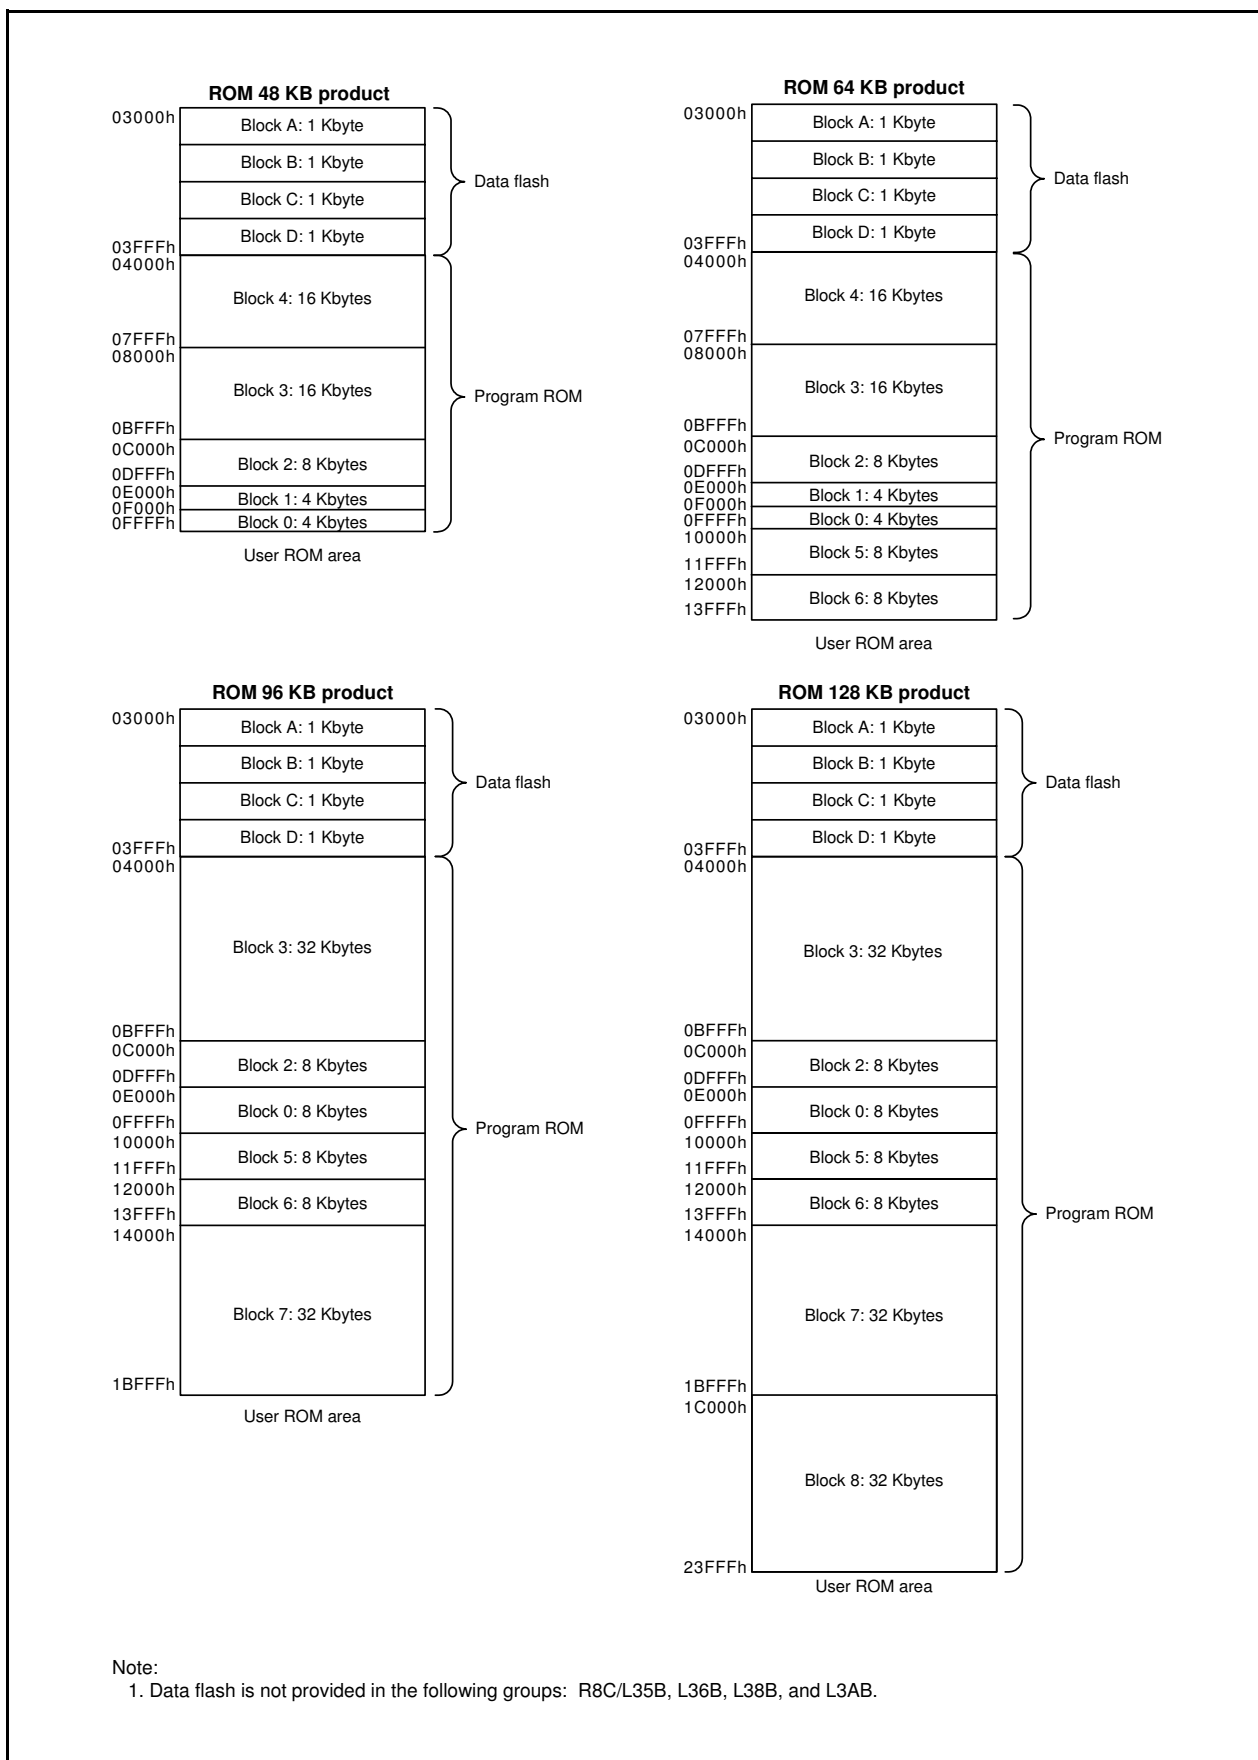

Figure 33.1 Flash Memory Block Diagrams of R8C/L35A, L36A, L38A, L3AA, R8C/L35B, L36B, L38B, and L3AB Groups
- The number of blocks and block division vary with the MCU. Refer to **Figure 33.1 Flash Memory Block Diagrams of R8C/L35A, L36A, L38A, L3AA, R8C/L35B, L36B, L38B, and L3AB Groups** for details.
Figures 33.1 shows the Flash Memory Block Diagrams of R8C/L35A, L36A, L38A, L3AA, R8C/L35B, L36B, L38B, and L3AB Groups.